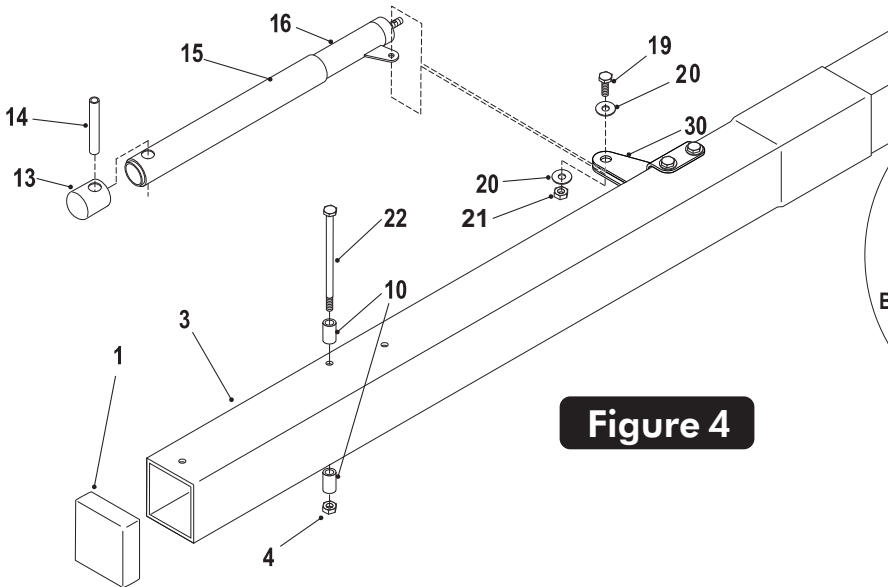

Figure 4
- Slide Actuator Sleeve (#15) over Actuator (#16) and place Actuator Cap (#13) on top. Align holes in all 3 parts and slide Pivot Tube (#14) through holes in Actuator Cap (#13) Plastic Actuator Sleeve (#15) and Steel Actuator (#16) until equal amounts stick out through both sides of actuator. See **Figure 4**.
- Lay Pole Assembly on its side on two padded saw horses. Slide tab on Actuator (#16) between Post Ears (#30) and secure using one bolt (#19), two washers (#20) and one lock nut (#4). See **Figure 4**. Tighten bolts tight.
- Secure two stop spacers (#10) to pole, as shown in **Figure 4**, using one hex bolt (#22) and one lock nut (#4).